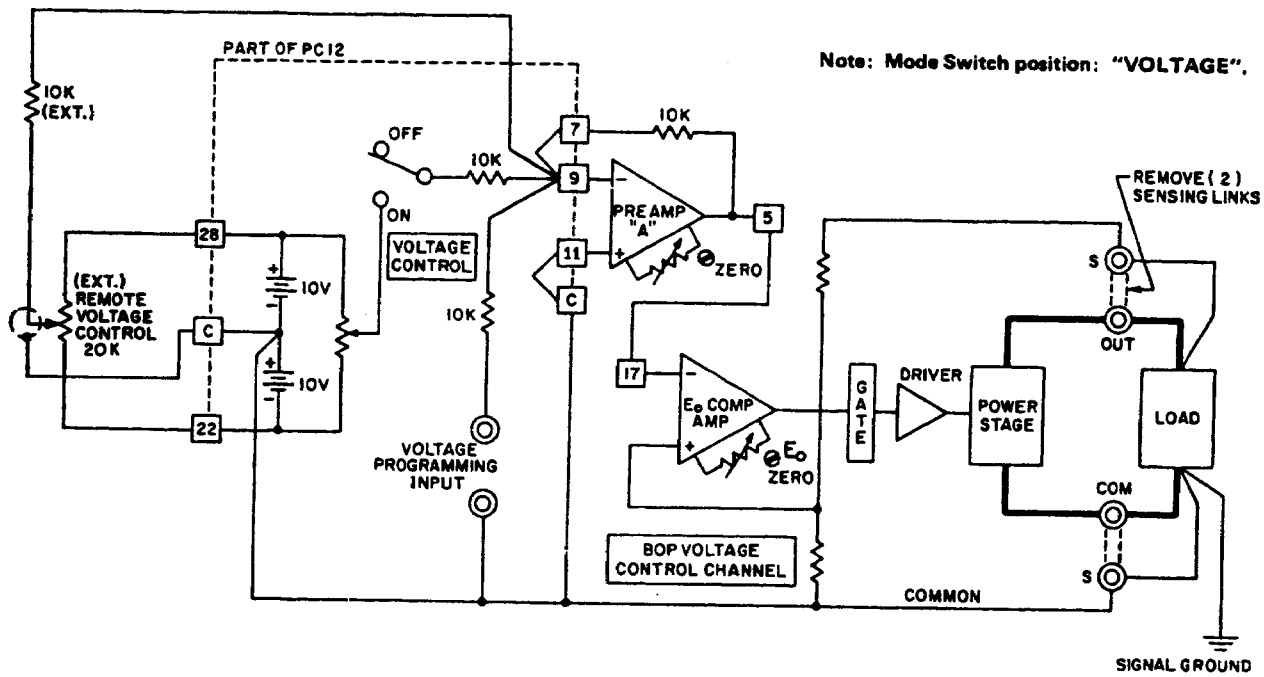

FIG. 3-4 REMOTE POTENTIOMETER CONTROL OF THE BOP D-C OUTPUT VOLTAGE
- 3-11 REMOTE D-C OUTPUT VOLTAGE CONTROL BY RESISTANCE.** As seen in FIG. 3-4, and as described in a previous paragraph (Paragraph 3-6) the BOP d-c output potential can be controlled within its specified range by means of the VOLTAGE CONTROL, with the VOLTAGE CONTROL SWITCH in the ON position. PREAMP "A" with the built-in feedback and input resistors, has a gain of one and the fixed gain of all BOP models is designed so that a d-c input signal of zero to (\pm)10 volt will control the BOP output through its specified range. In the local (front panel) control mode, the d-c control potential is applied via the VOLTAGE CONTROL. In the remote control mode, a similar control circuit, located external to the BOP is substituted for the internal control elements.
3-12 As shown in FIG. 3-4, this control method can readily be performed remotely, by setting the VOLTAGE CONTROL SWITCH to the OFF position and connecting an external REMOTE VOLTAGE CONTROL as indicated in FIG. 3-4.